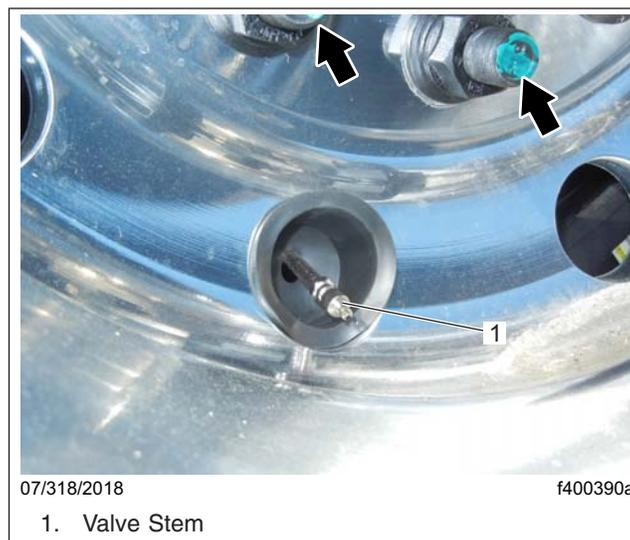

Fig. 8, Marking Wheel Studs
- Mark the two studs closest to the valve stem as shown in **Fig. 8**, for proper wheel assembly location when reinstalling the wheel assembly on the hub.